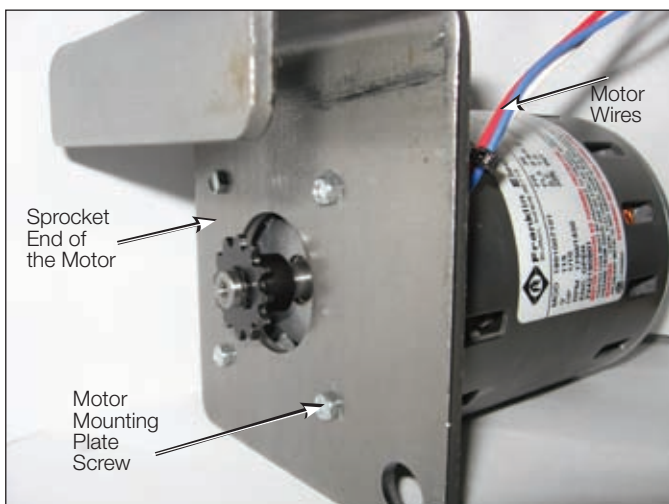

Figure 10.
- Use a 1/4 socket on a ratchet to attach the motor mounting plate to the new motor using the new motor mounting plate screws provided in the motor replacement kit. Do not fully tighten. Make sure the motor wires are extending out of the top right of the motor when looking at the motor from the sprocket end. Refer to Figure 10. Using a torque wrench, tighten the motor plate mounting screws to 19-20 lb-in (2.14-2.3 Nm).